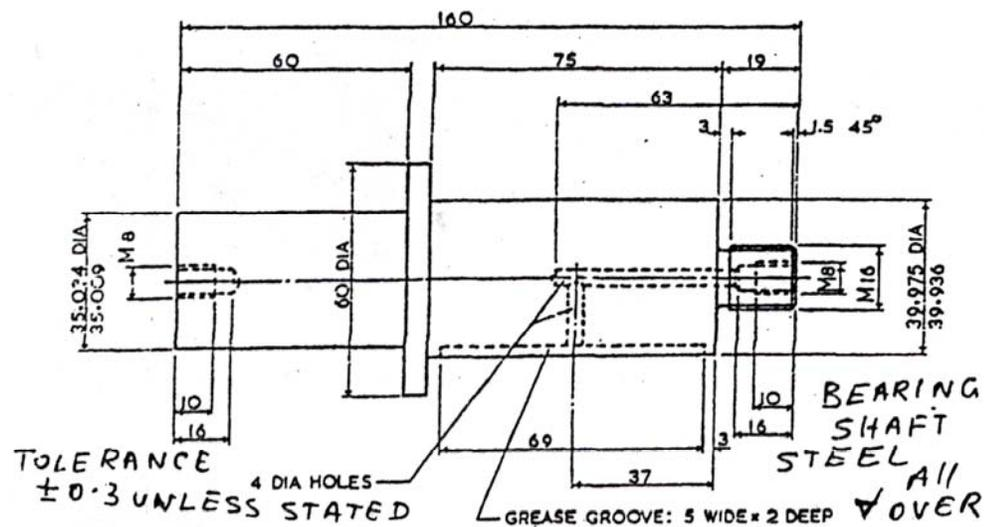

Fig. 1
- i) Reduction in machining Area (8)
- ii) Simplification by separation (8)
14. a) A bearing shaft (Fig. 1) is to be produced in quantities. Subject the component to a 'design for manufacture analysis', to identify an unnecessary amount of machining and tooling. Offer a design Modification that will achieve economy without impairing the function of the component.